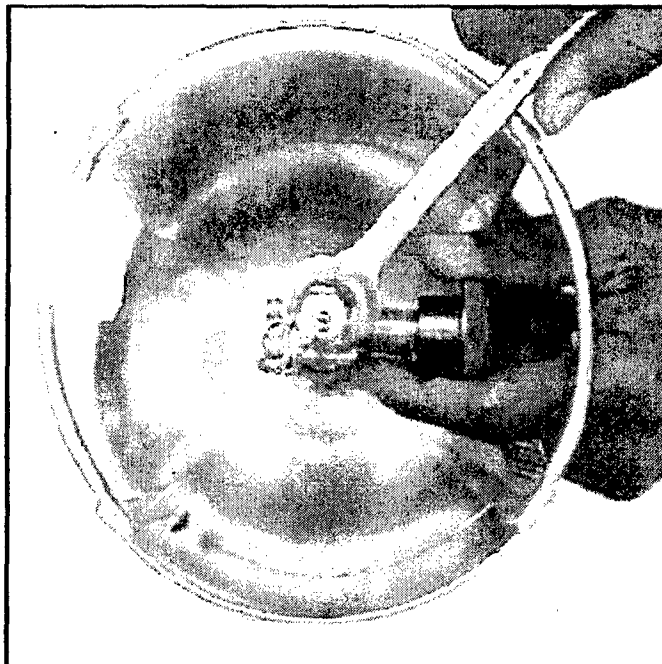

Figure 6-4.3. Removing swagelok cap from 6-L canister
- 3 Unscrew the swagelok cap on the practice canister inlet with a 9/16" wrench (Figure 6-4.3). Grasp and hold the canister inlet to prevent any movement.